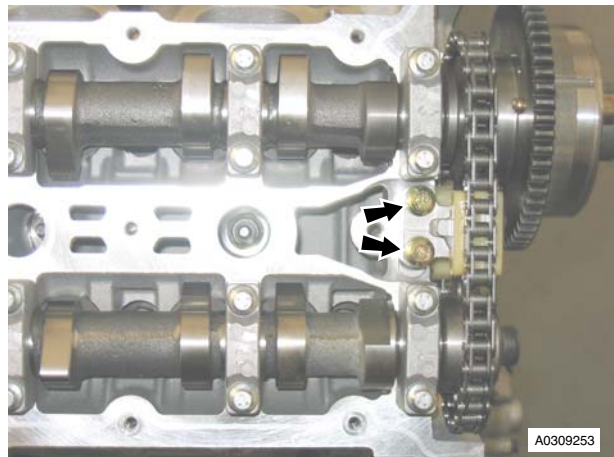

Figure 5
17. Remove bolts (x2) securing RH secondary timing chain tensioner to cylinder head (see Figure 5).